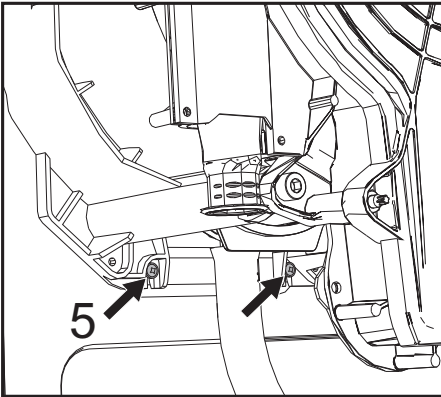

fig. 63
- Loosen the 2 **bottom screws "5"** securing the exchanger to the frame (fig. 63)